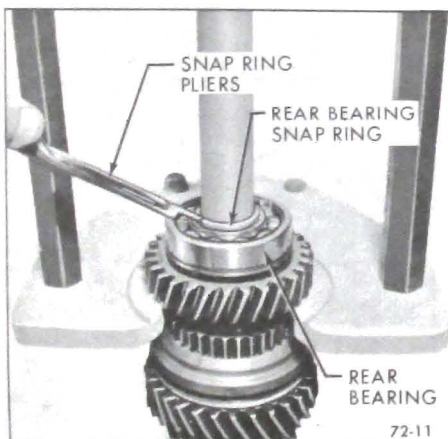

Figure 72-11 - Removing Rear Bearing Snap Ring
2. Remove rear bearing snap ring. See Figure 72-11.